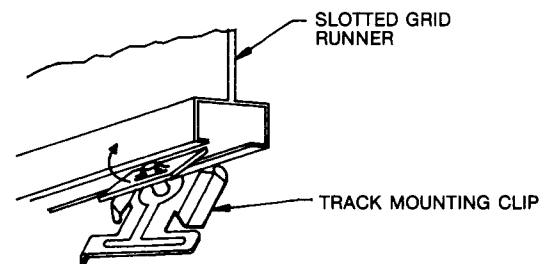

FIG. 3
4. Place one side of the NUT in the SLOTTED GRID RUNNER and snap the other side in by pushing up on the screw. See Fig. 3.